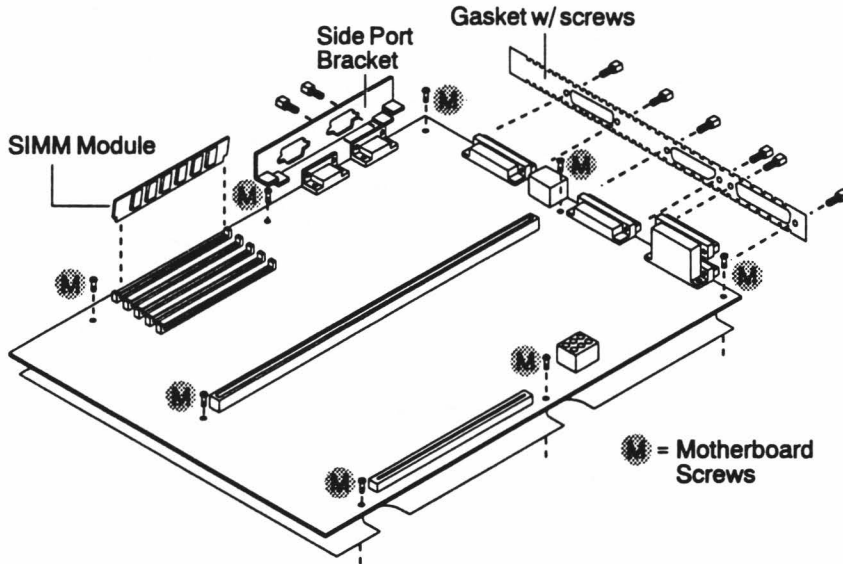

Figure 4-4. Motherboard Chassis, Expansion Bracket
12. Remove motherboard from the chassis. Locate the screws attaching the motherboard to the chassis in Figure 4-4. Remove the screws and the motherboard.
1. Locate the side port bracket and gasket in Figure 4-4.